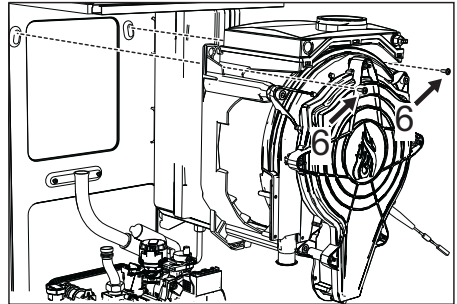

fig. 50
- Remove the **2 top screws "6"** securing the exchanger to the frame (fig. 50)